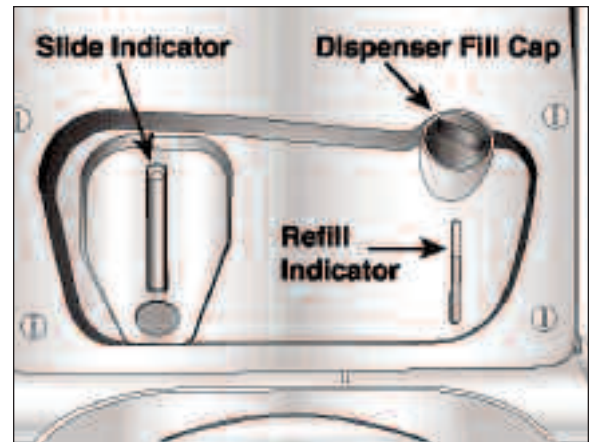

Figure 1
- 1) Unscrew the dispenser fill cap (figure 1).
- 6) Move the slide indicator all the way to the top (figure 1). Next, follow steps 7 and 8 to set the amount of detergent used for the average load.